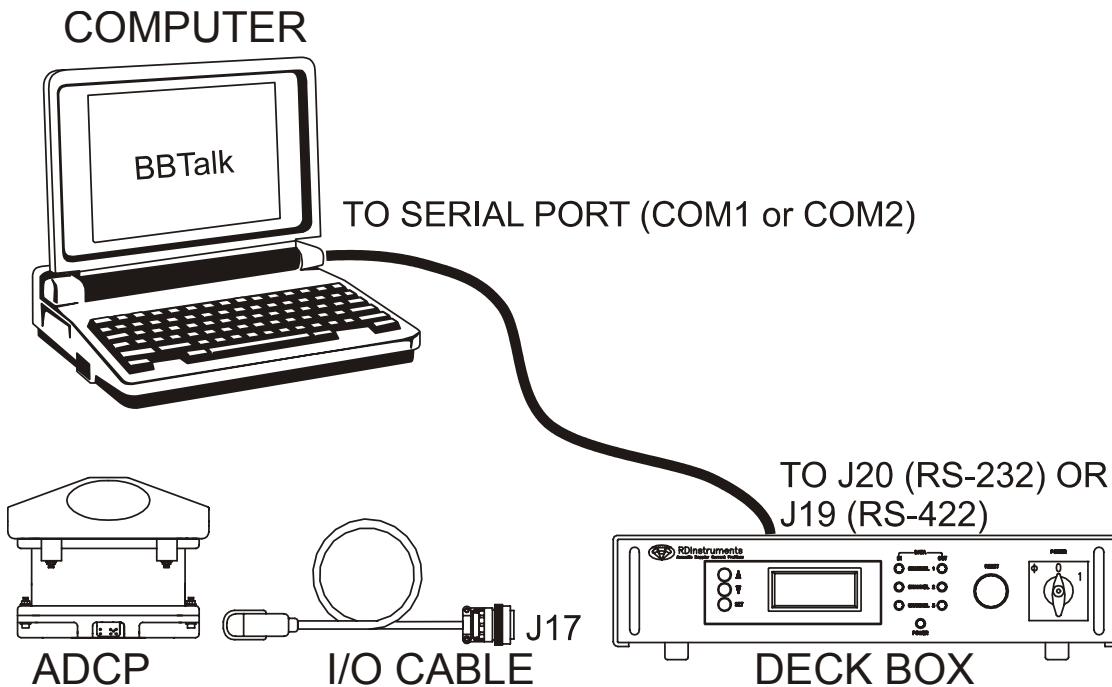

Figure 2. ADCP Connections
- a. Connect the ADCP as shown in Figure 2. Place the ADCP in a bucket of water (enough water to cover the transducer head). If the Workhorse is not placed in water, some of the tests will fail (but not harm the ADCP).